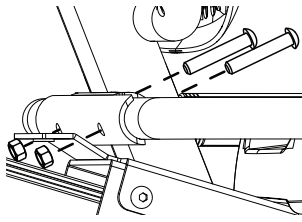

Figure 8
- 3. Secure the handlebars using two M10 x 55 mm BHSC and two M10 hex nuts (Figure 8).